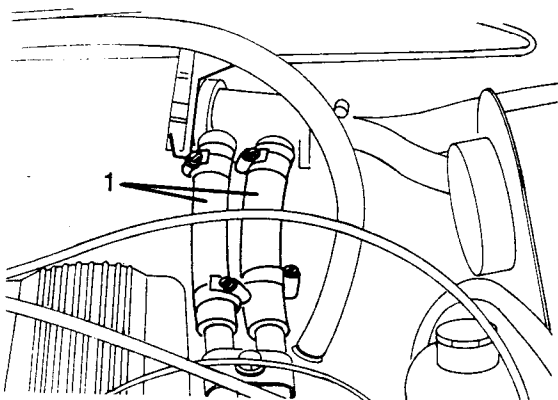

Fig B4.27
(16) Refer to Fig B4.27. Connect the heater hoses (1).
(17) Reconnect the engine earth cable to the chassis side member.